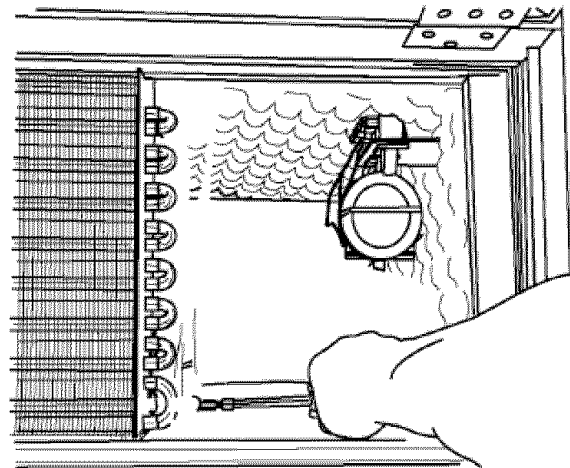

Figure 2
3. Remove the high side slide rail mounting screw. (See figure 2).